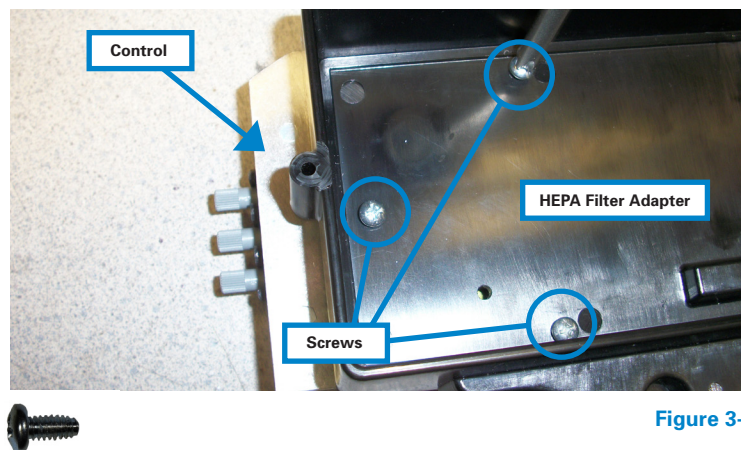

Figure 3-8
Step 3-8. Set HEPA Filter Adapter (A) on top of Control and align the three mounting holes in the Adapter to three matching holes on the control bracket. Use the **three (3)** #6-32 self tapping screws (D) to attach the Control to the HEPA Filter Adapter. (**Figure 3-8**)